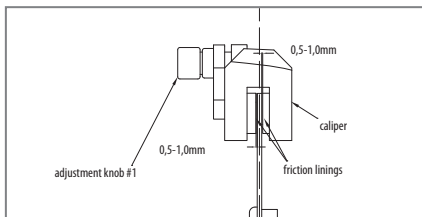
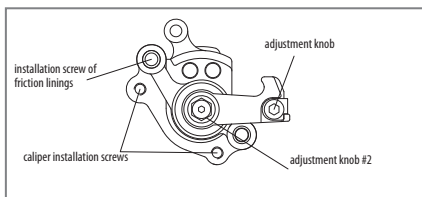
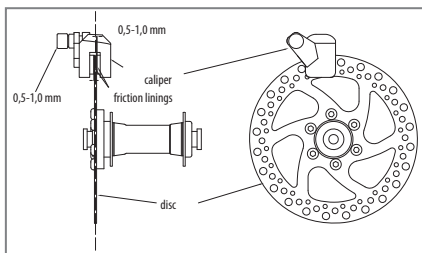

Fig. 53. Brake adjustment
Fig. 54. Brake adjustment
Fig. 55. Brake adjustment
5. Proper brake adjustment, front, wheel, Fig. 53, Fig. 54, Fig. 55.